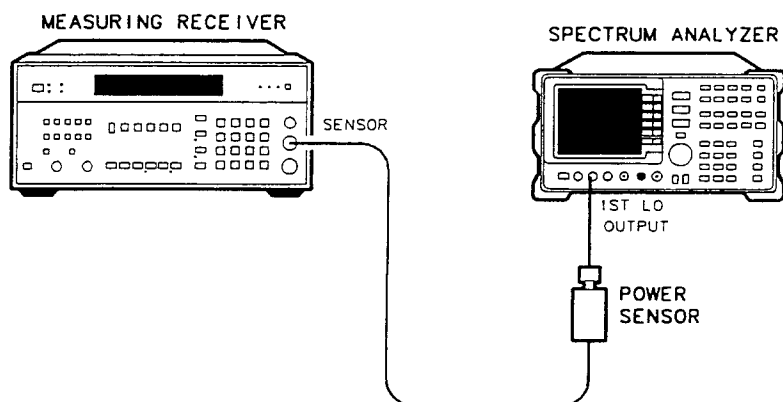

Figure 3-24. 1ST LO OUTPUT Amplitude Test Setup
2. Connect the equipment as shown in Figure 3-24.